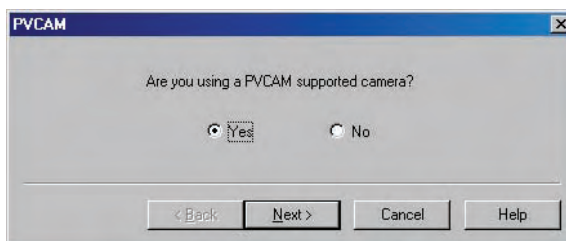

Figure 12. Hardware Setup wizard: PVCAM dialog box
5. When the PVCAM dialog box (Figure 12) is displayed, click in the **Yes** radio button, click on **Next** and continue through the wizard. After the wizard is finished, the **Controller/Camera** tab card will be displayed with the **Use PVCAM** checkbox selected. You should now be able to set up experiments and acquire data.